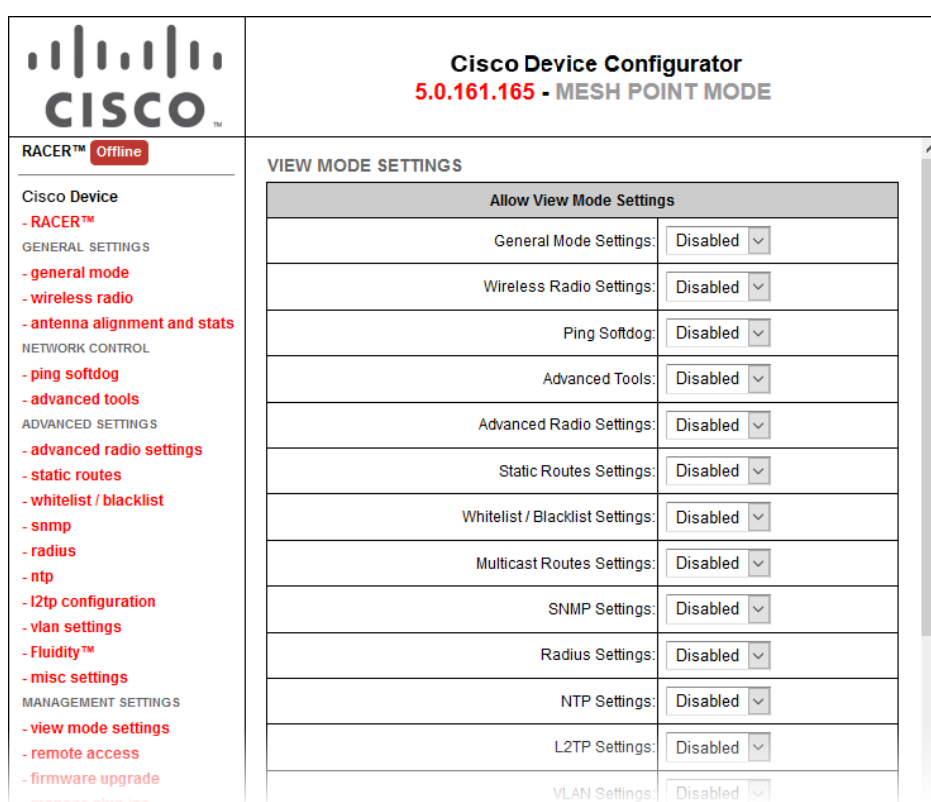

Figure 45. Configurator GUI (VIEW MODE SETTINGS dialog)
2. Click the **-view mode settings** link under **MANAGEMENT SETTINGS** in the left-hand settings menu (Figure 45 \(page 87\)).